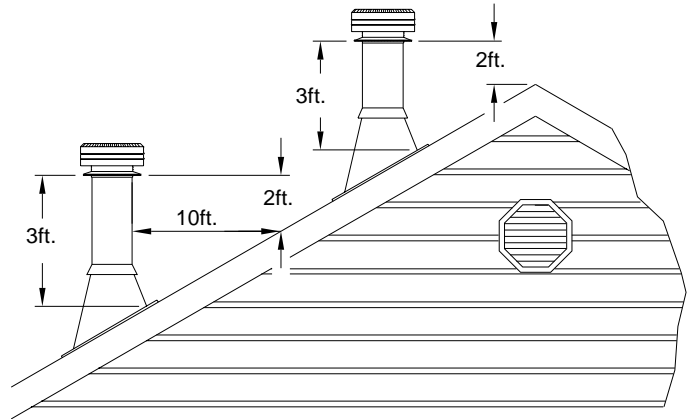

FIGURE 5
3. Authorities require that the chimney extend not less than 1m (3') above the highest point where it passes through the roof of a building and not less than 609mm (2') above any portion of the building within 10'. See figure 5.